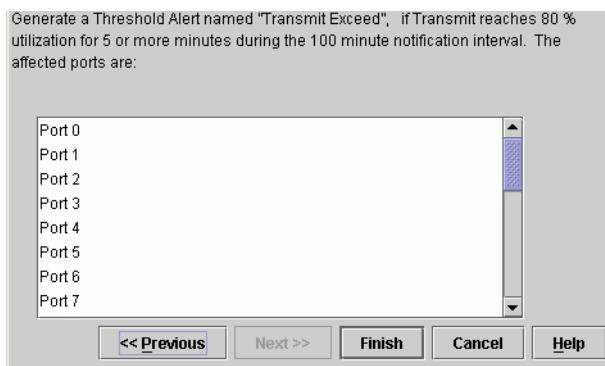

Figure 31: New Threshold Alerts dialog box—summary screen
11. Click **Next**. A final screen displays to provide a summary of your alert configuration, as shown in Figure 31.